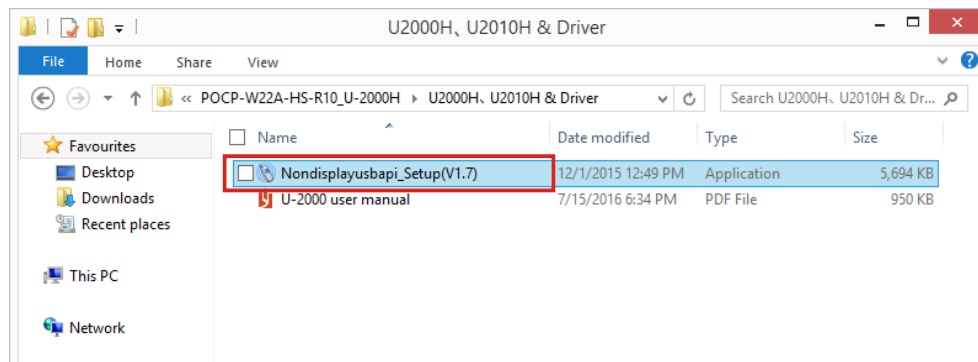

Figure 3-6: Handset Driver Folder
Step 2: Select **Other** from the list of the driver CD. Double click the setup file in the **POCP-W22A-HS-R10_U-2000H** folder to install the handset driver (**Figure 3-6**).